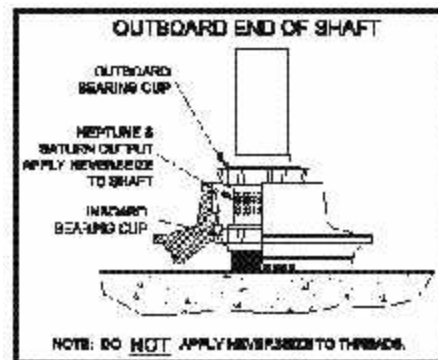

Figure 6.3.6.5—Placing Outboard Bearing Cone onto Shaft
**NOTE:** DO NOT push on bearing rollers or bearing cage; reference Figure 6.3.6.2.